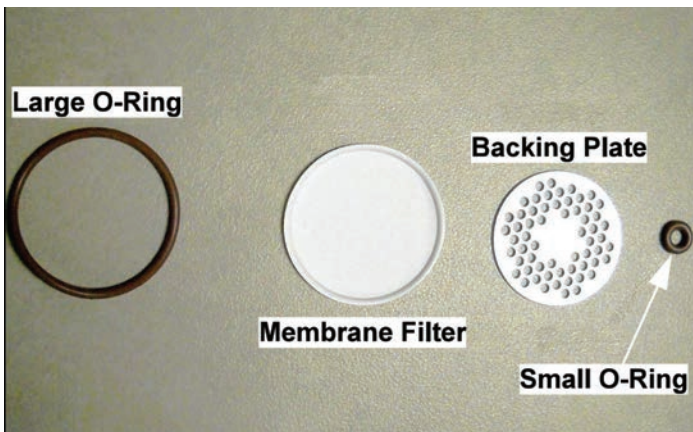

Figure 66: O-Rings, membrane filter and backing plate removed
7. Using a tissue, clean the filter components (see *Figure 66* below).